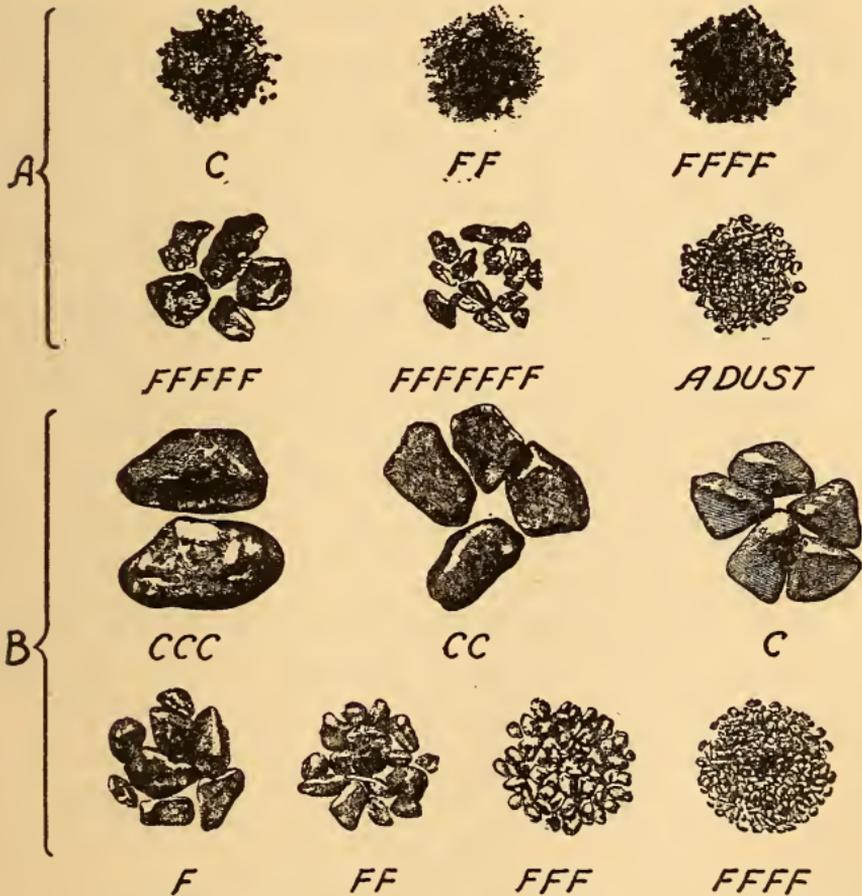

FIG. 69. KINDS OF BLASTING POWDERS
**What Blasting Powder Is.**—*Blasting powder* is black gunpowder but it is not so carefully made as that used for arms. Like black gunpowder, too, there is only one strength of blasting powder but the quickness of its action is controlled by using small and large grains, the finer grains burning much faster than the coarser grains. A whole series of DuPont blasting powders is pictured in Fig. 69.